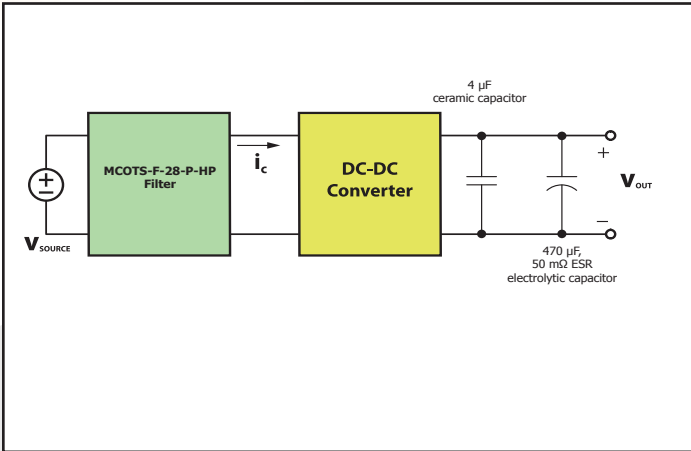

Figure 13: Test Set-Up Diagram, showing measurement points for Input Terminal Current Ripple (Figure 9) and Output Voltage Ripple (Figure 10).
**Figure 9: Input Terminal Current Ripple,  $i_C$ , at full rated output current and nominal input voltage with a 470  $\mu$ F electrolytic capacitor (1 A/div); Timebase: 4  $\mu$ s/div; Bandwidth: 20 MHz. See Figure 13.**
**Figure 10: Output Voltage Ripple,  $V_{out}$ , at nominal input voltage and rated load current (100 mV/div). Load capacitance: 4  $\mu$ F ceramic and 470  $\mu$ F electrolytic capacitors. Timebase: 4  $\mu$ s/div; Bandwidth: 20 MHz. See Figure 13.**